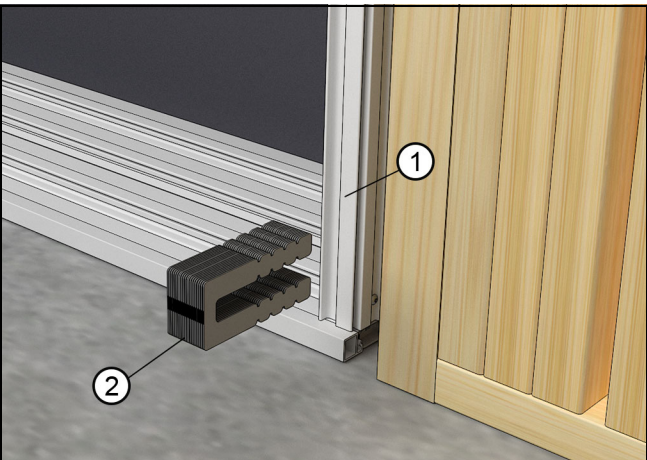

Figure 56 Center the frame and shim at pocket sill side
2. Center the frame in the rough opening and shim one corner at the bottom. See Figure 56.